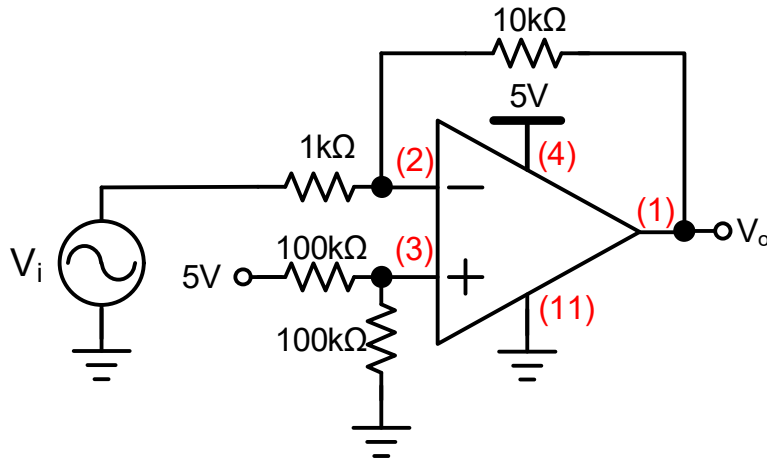

Fig. 3.9 Inverting OPAMP
- (1) Assemble the circuit as shown in Fig. 3.9.
- (2) Use $R_1=1k\Omega$, $R_2=10k\Omega$.
- (3) Measure the voltage of pin 1, 2, 3, 4, 11, and record down the values in Table 3.3.
- (4) Provide the small signal sine wave v_i with $200mV_{p-p}$, 1kHz with 2.5V offset as input by using function generator.
- (5) Record the voltage gain $A_v=V_o/V_i$ (V/V) by observing the differentiation of input and output voltage value in Table 3.4.
- (6) Change the frequency of input signal and repeat step (4).